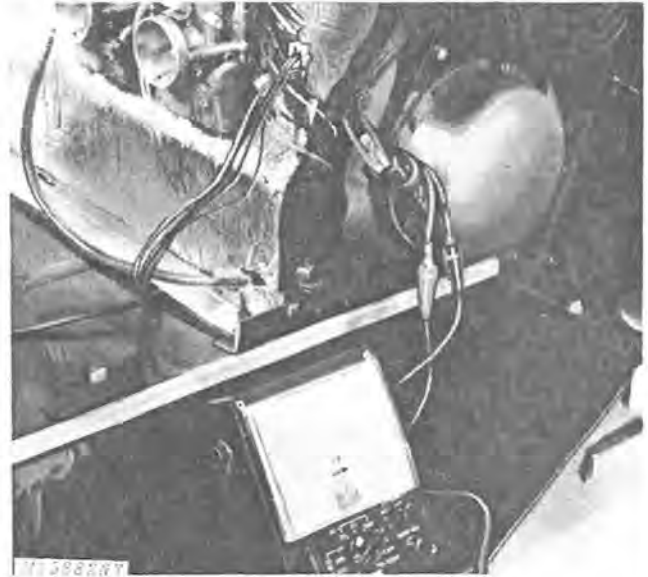

Fig. 8-Testing Stator With AC Voltmeter
3. Connect the AC voltmeter to the two green and yellow leads, Fig. 8.
3. Connect the test bulb to the two green and yellow leads, Fig. 8.